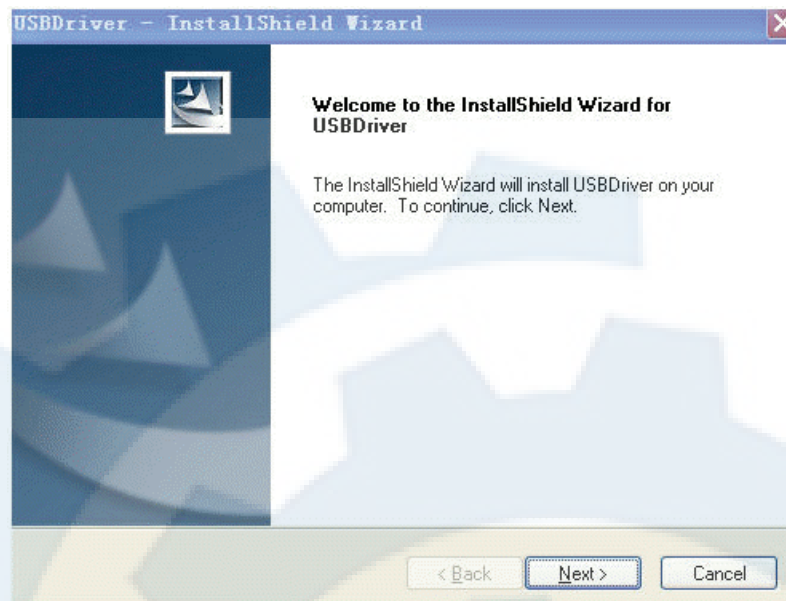

Figure 2-20: Install the USB driver
- Double click USBDriver file to start installation. See Figure 2-20.